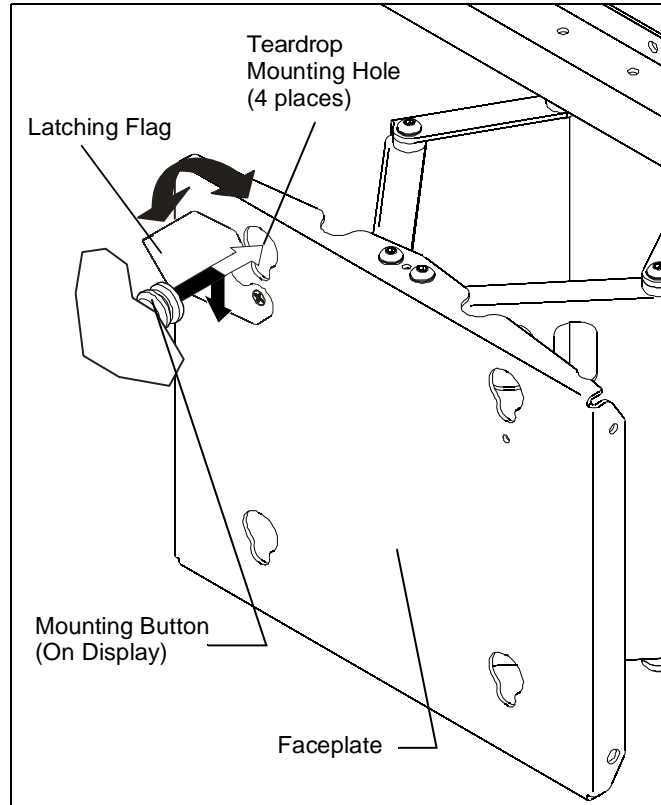

Figure 7
2. Lower latching flag. (See Figure 7)
4. Align mounting buttons on display with teardrop mounting holes in mount faceplate (See Figure 7).
6. Lower display until the recessed area of all four mounting buttons is seated in the lower area of teardrop mounting holes in faceplate. (See Figure 7)